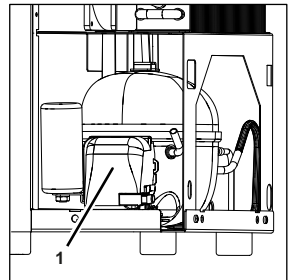

Figure 131
1. Remove the cover (Figure 131/1) from the electrical assembly.
- Attach the cover (Figure 131/1) of the electrical assembly.